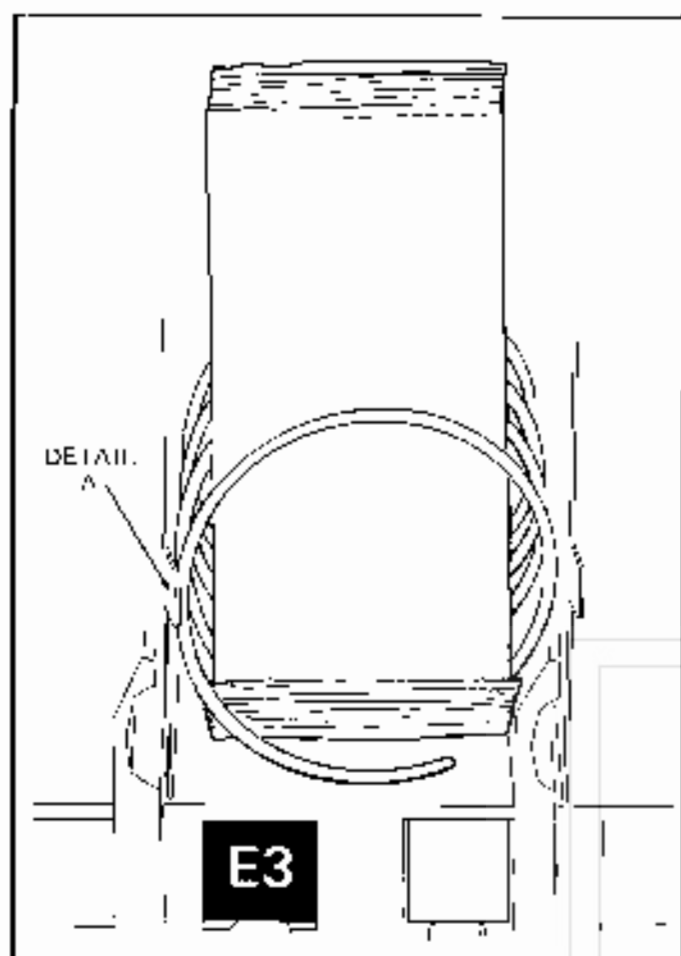

Figure 5. PLACEMENT OF PRODUCT ON MAIN PRODUCT CANDY SHELVES AND FRONT END POSITION OF SPIRAL.
- LOADING MAIN PRODUCT CANDY SHELVES:** The 8-selection (candy type) shelves are loaded similar to the 4-selection shelves except that the bottom of the product sits on the shelf in front of the spiral wire (see Figure 5) that rests on the shelf. These products must also fit prop-
erly in the spiral space; do not force product into spiral. These spirals are removed and installed the same as the large spiral (see Figure 3), except that the front end position is different (approximately 5 o'clock) (see Figure 5) and the front left side of the spiral must be behind the small tab located on the left side of the product space side wall (see Figure 5, Detail A).